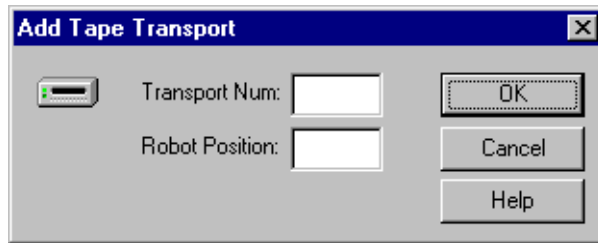

Figure 74. Add Tape Transport dialog box
3. Click the **Add** button. The Add Tape Transport dialog box appears, as shown in Figure 74.